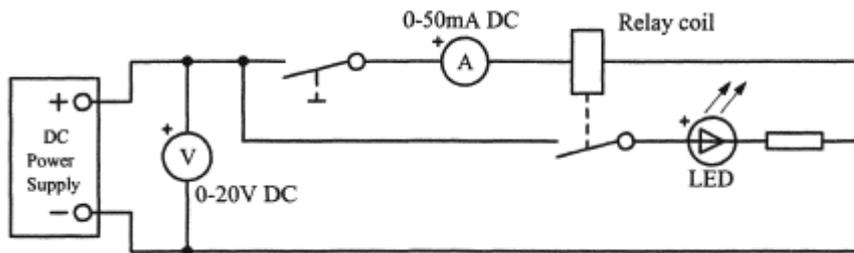

Figure 1
2. Using the relay panel connect the circuit as shown in Figure 1.